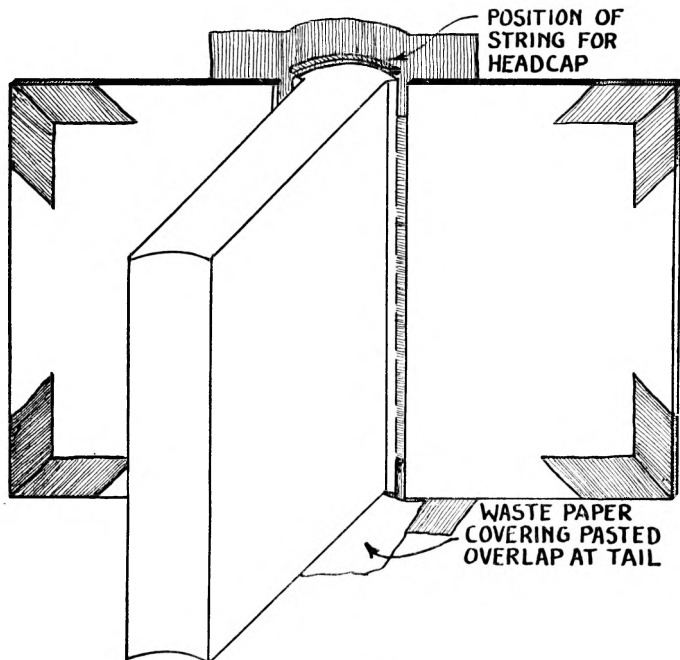

Fig. 100
30. Open the covers and place a piece of waste paper over the pasted cloth projecting at the tail to prevent the paste from getting on to the edges of the book. Stand the book upright on the bench with the fore-edge to the front. See fig. 100.
33. The head and tail overlaps have now to be turned in. Open both boards and place a scrap of waste paper on the pasted leather at the tail, to prevent it from soiling the leaves and stand the book upright on the bench, fig. 100. Place one of the prepared pieces of string on the leather level with the head of the book. Rub a little paste on the outside of the leather at the turn-in. With one hand on the top edge of each board push back the boards slightly